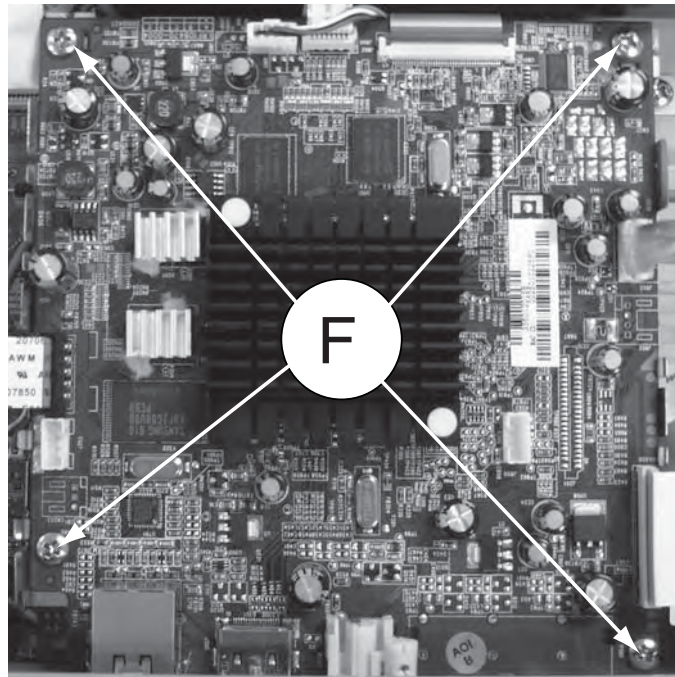

Figure 12
- 1) Loosen 4 screws “F” on the top of BD Board as shown in figure 12